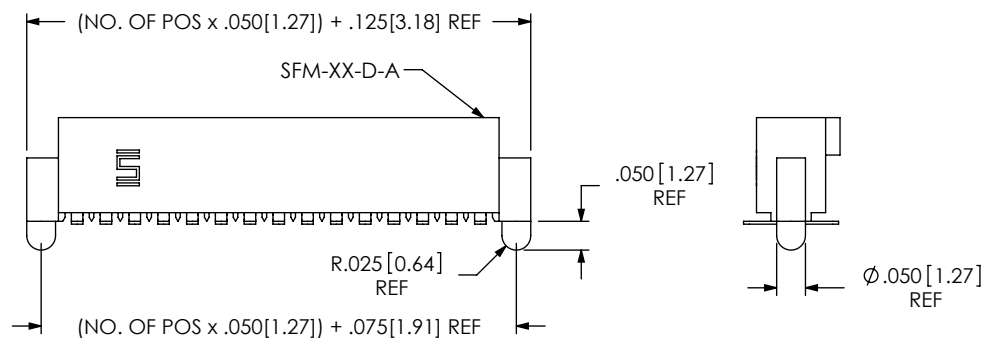

FIG 4
- A: ALIGNMENT PIN (USE SFM-XX-D-A) (SEE FIG 4, SHT 2)